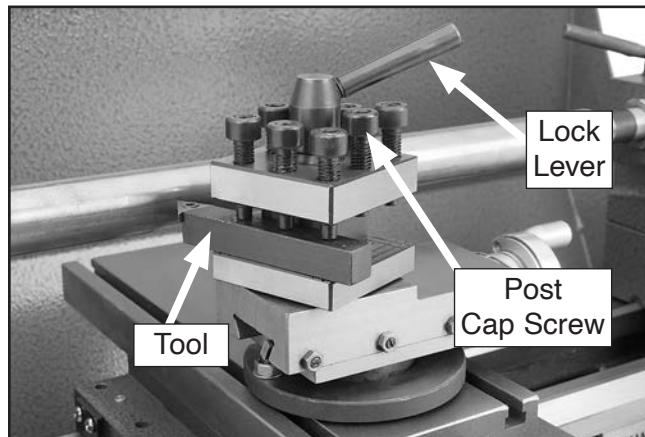

Figure 39. 4-way tool post with tool mounted.
1. Loosen the tool post cap screws until the tool fits underneath them, as shown in Figure 39, then evenly and firmly tighten the cap screws to secure the tool.